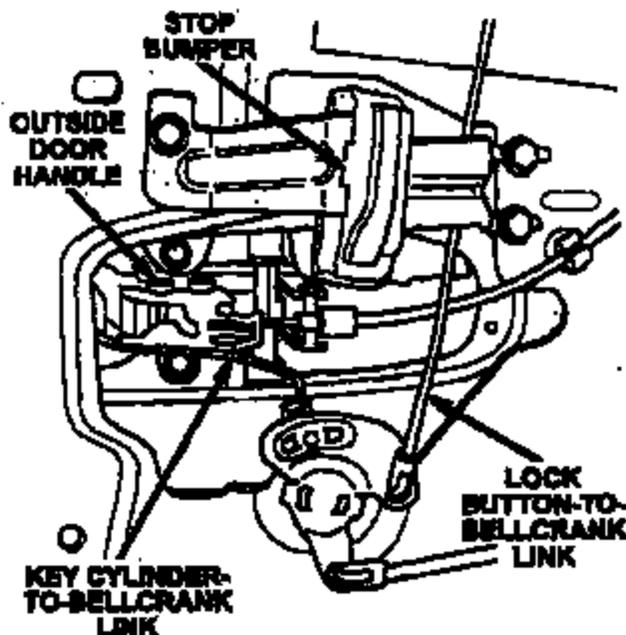
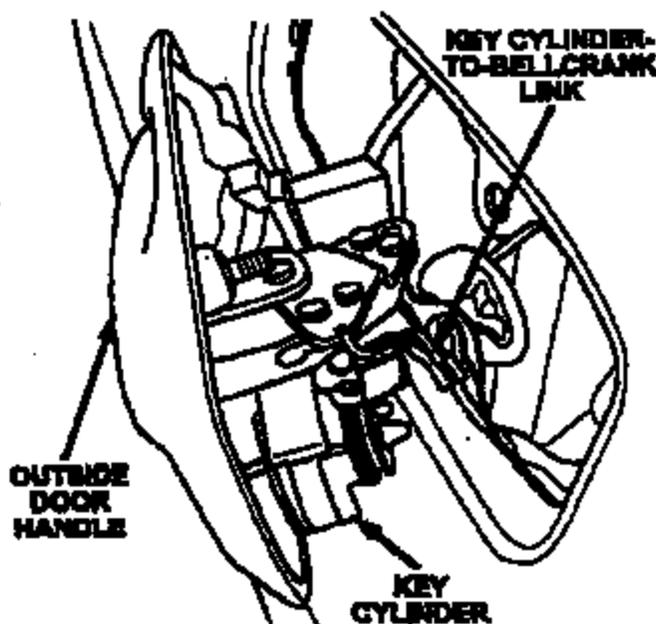

Figure 2
Figure 3
4. Disconnect the key-cylinder-to-bellcrank link from the bellcrank (Figure 2).
5. Remove the three (3) outside door handle nuts.
6. Remove the outside door handle from the door and then disconnect the key-cylinder-to-bellcrank link from the key cylinder (Figure 3). Discard the link.
7. Connect the new link to the key cylinder (Figure 3).
9. Connect the key cylinder-to-bellcrank link to the bellcrank (Figure 2).